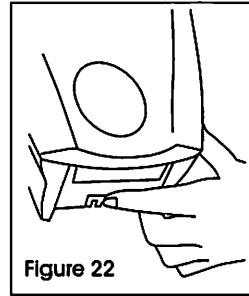
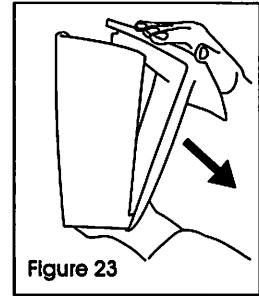

Figure 22
Figure 23
- Open by pushing up on the release latch (use key if you have converted to the keyed locking mode). The latch is on the bottom back edge in the center. (See Figure 22) While pushing the release latch, open by placing your other hand on the top, and guide the front cover forward. (See Figure 23)